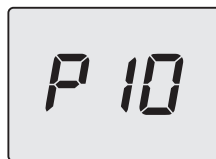

Fig. 8.26
- Scroll through the various parameters by pressing the keys 11 (back) or 13 (forward), until **P10**, which alternates with the parameter value, appears on the LCD display (Fig. 8.26).